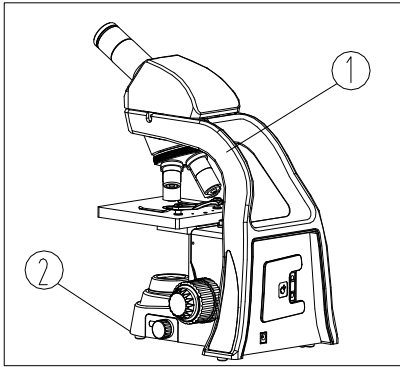

Fig.1
3. When moving the microscope, keep holding the rear cover hand clasp① and the front end of microscope body② with each hand. Handle with care. (See Fig. 1)